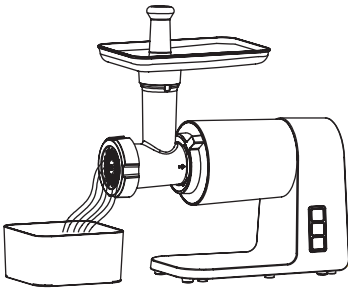

Figure 8.
3. Feed food into the hopper plate. Use the food pusher to push food into the grinding head (fig. 8).